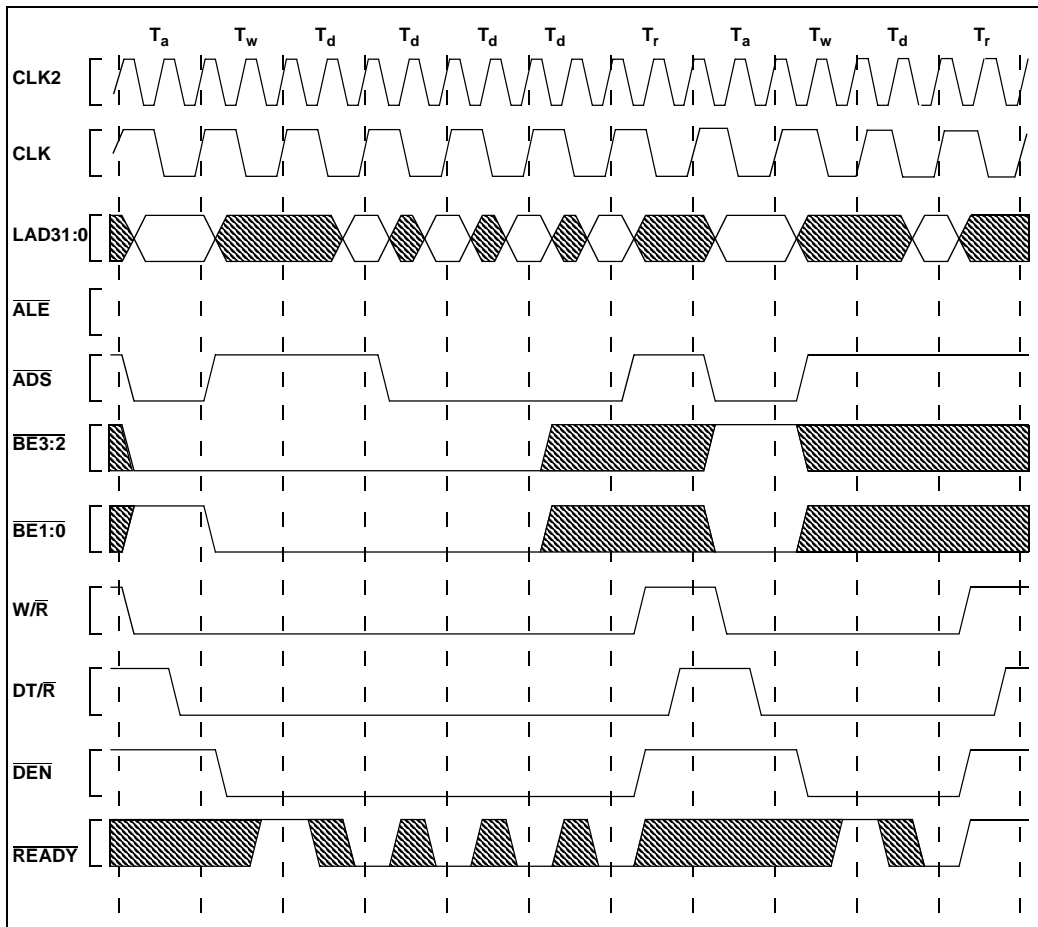

Figure 26. Accesses Generated by Quad Word Read Bus Request, Misaligned Two Bytes from Quad Word Boundary (1, 0, 0, 0 Wait States)
- **Figure 26, Accesses Generated by Quad Word Read Bus Request, Misaligned Two Bytes from Quad Word Boundary (1, 0, 0, 0 Wait States) (pg. 33)**